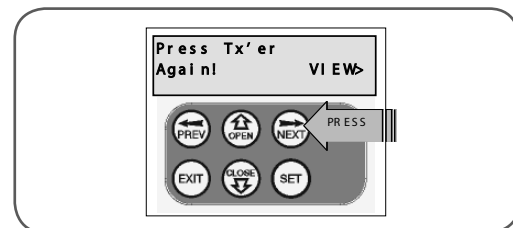

fig 36
4. Press NEXT to view transmitter parameters (Fig. 36).